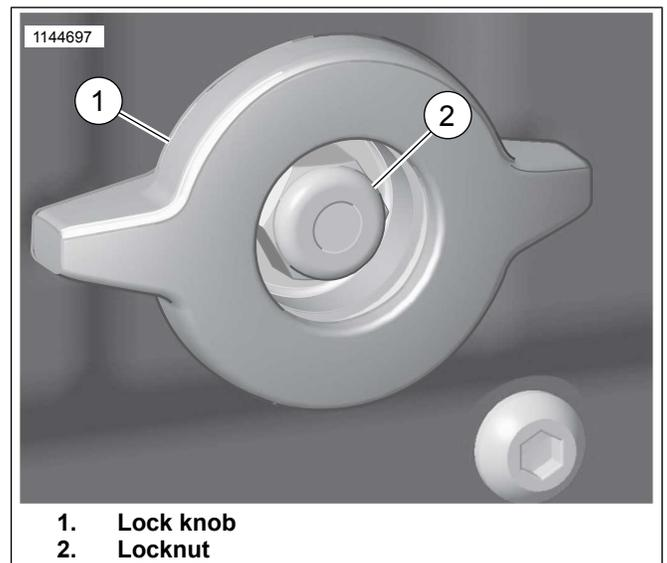

Figure 7. Remove Locknut
3. Refer to Figure 7. Remove locknut (2) and lock knob (1).